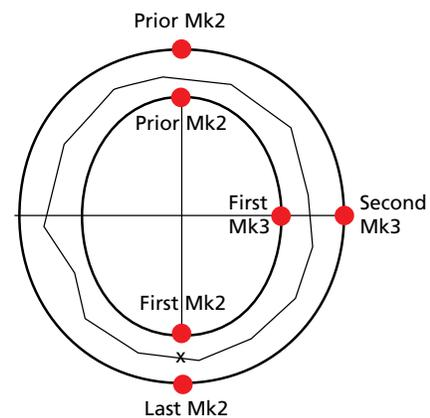

Figure 5-28
When digitizing 2 or more consecutive columns on an arc you do not redefine the beginning of the second (and additional) columns with a Mk1, Mk2. The last Mk2, Mk2 sequence of the prior column defines the start of the current column (see Figure 5-28).
7. The start of the right side column is already defined, therefore, enter a Mk3 for this column directly on the inside boundary of the column at the half way point to the bottom of the letter (see Figure 5-28).
8. Enter the second Mk3 on the line of the outside border of the circle and half way around to the bottom of the letter (see Figure 5-28).
9. Enter the first Mk2 for the end of this column at the bottom middle of the inside circle to define the end of the inside of the right half column (see Figure 5-28). This is the location where you started the column.
10. Enter the last Mk2 to define the end of the outside of the column at the bottom of the outside circle of the letter (see Figure 5-28). The column ends should overlap approximately 1/8" to prevent the ends from separating.